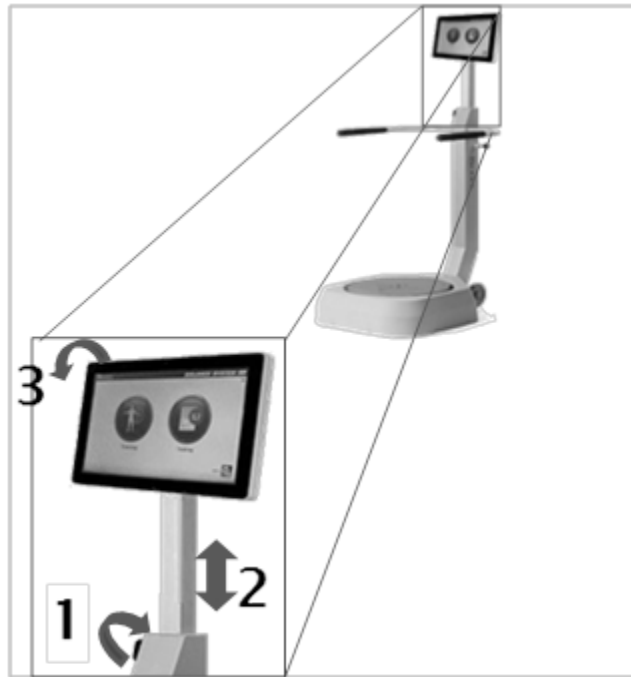

Figure 4.2. Adjusting the Display.
- Raise, lower, and tilt the display so that the patient looks straight ahead at the screen to encourage good posture and good data collection (see Figure 4.2).